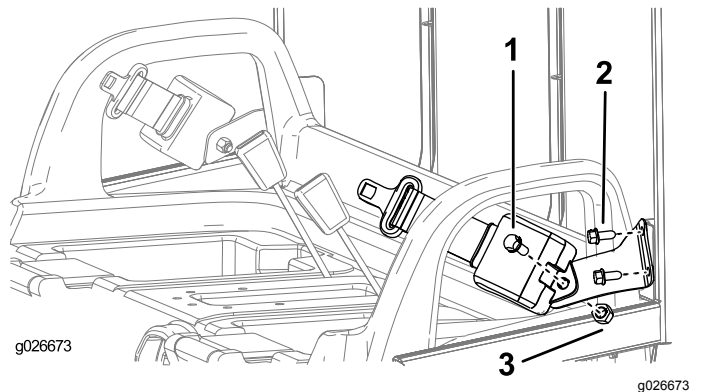

Figure 7
1. Mount a seat belt bracket to each ROPS tab with 2 bolts (3/8 inch) as shown in Figure 7.
3. Mount the retractable end of each seat belt assembly to each seat belt anchor bracket with a bolt (7/16 inch) and a nut (7/16 inch) as shown in Figure 7.